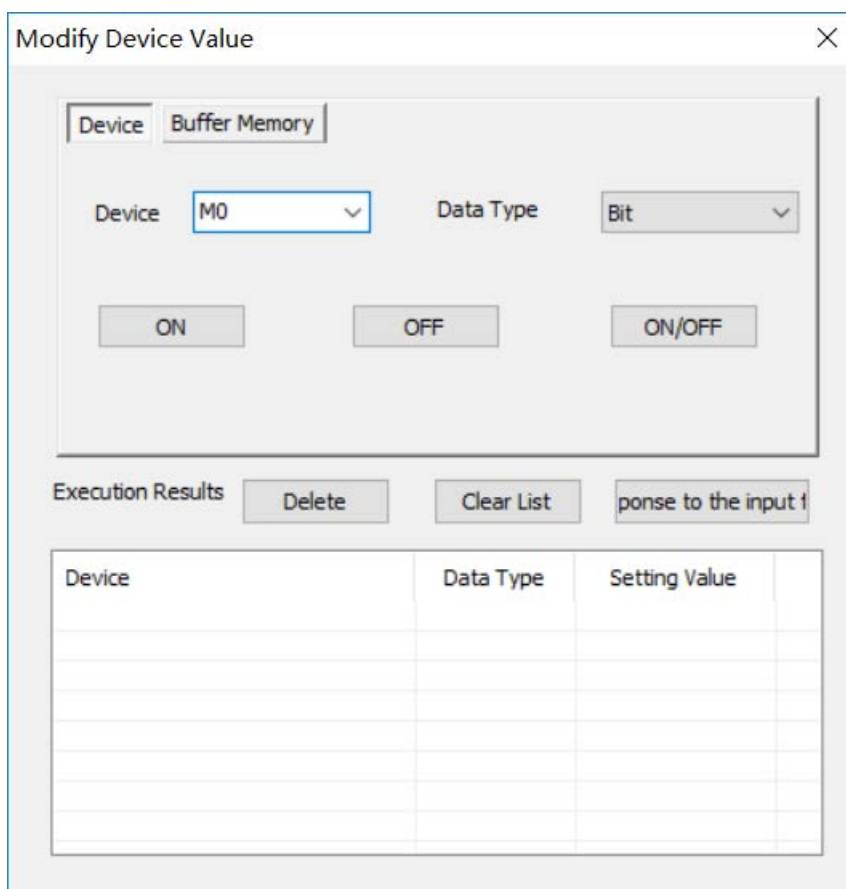

Figure 2-28
- 6) Users can set the value for registers as Figure 2-28 shows;